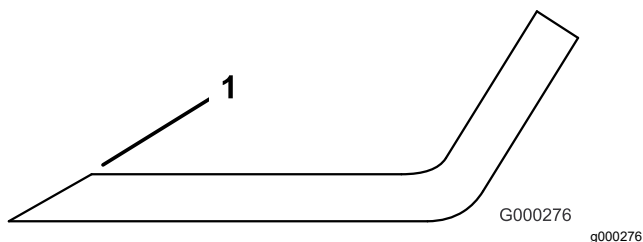

Figure 27
- Examine the cutting edges of all of the blades and sharpen the cutting edges if they are dull or nicked (Figure 27).
Note: Sharpen only the top of the cutting edge and maintain the original cutting angle to ensure sharpness (Figure 27). The blade remains balanced if the same amount of metal is removed from both cutting edges.